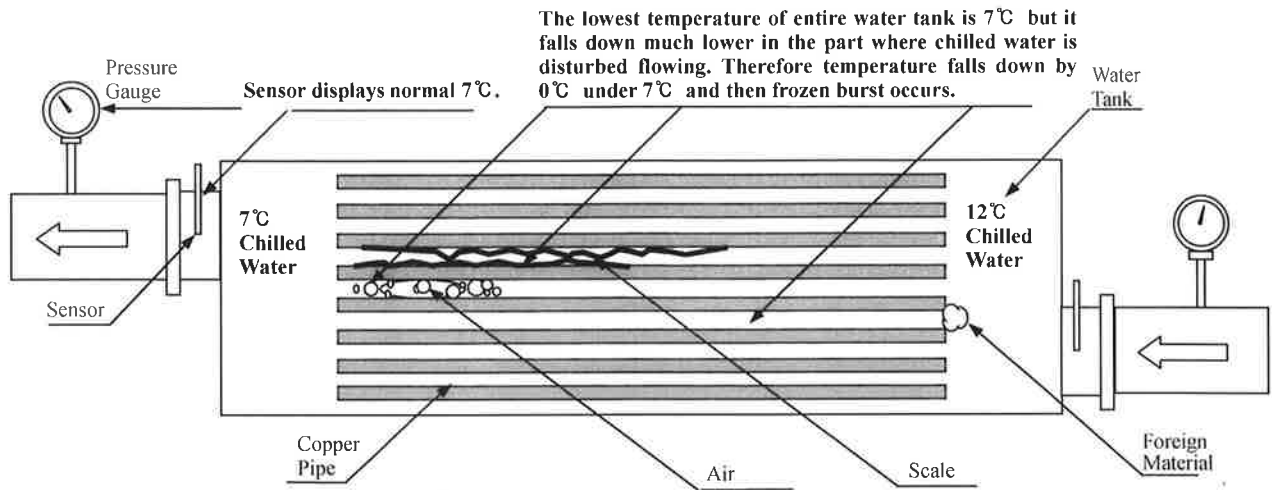

Figure 14-2 Cause of frozen burst in copper pipe
1) To prevent against frozen burst, it is important to control thoroughly water circulation. Usually operate the pump after supplying chilled water and cooling water at the beginning of trial run. And then clean perfectly the inside of pipe and remove foreign material thoroughly by draining it out 2~3 times after water circulation. Mainly foreign material (bolt, nut, welding slug, gloves and so on) is stuck inside pipe not to flow chilled water at the beginning of trial run. As shown in Figure 14-2, sensor displays normal temperature but MICOM does not detect that temperature of some part in copper pipe falls down when foreign material is stuck inside it. That is the cause of frozen burst. To remove it, it is very important to clean the inside of pipe at the beginning of trial run.
- 3) Air inside pipe for chilled water must be removed completely and automatic air bent must be installed to remove air as it is generated continuously by pump after purging completely. Also it is necessary to check water circulation by installing pressure gauge in the pipe for chilled water as water does not circulate well when air is filled in it. As shown in Figure 14-2, outlet side always forms lower pressure than inlet side because of the loss of pressure when chilled water flows inside the chiller. A user can check indirectly whether water circulates normally through it or not. Pressure difference is too greatly or little between inlet and outlet when water does not circulates normally. Also the needle of pressure gauge shakes severely as opened status of pressure regulating valve in pipe for chilled water or valve in header is bad or expansion tank operates abnormally. At that time, check it out and take an action to correct the phenomena. Pressure difference is different according to models of chiller. Usually it is normal to be minimum over 0.3~0.5kgf/cm². It is normal for temperature difference between inlet and outlet for chilled water to be under 5°C. Check water circulation and take an action to correct as FLOW of chilled water is less if temperature difference is